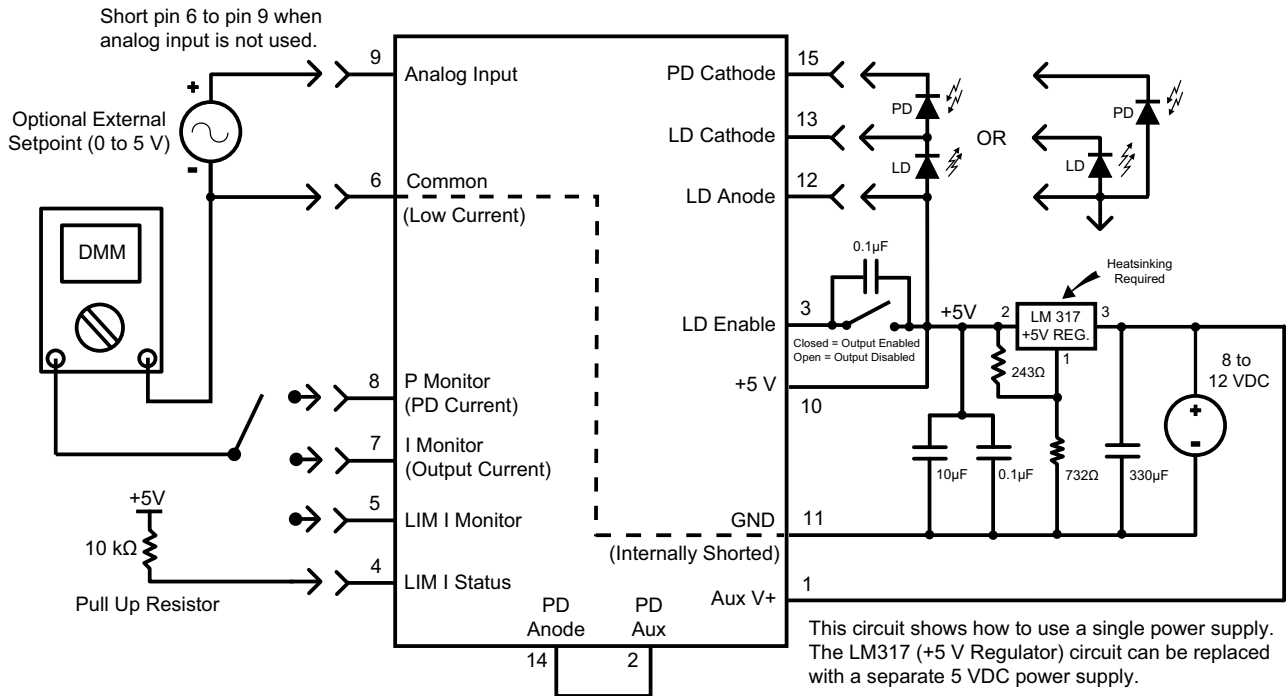

Figure 11. Type C Laser Diode
- 8 to 12 VDC power supply rated for 50 – 250 mA, plus 1.1-times the maximum laser diode drive current; power regulation circuitry is also required (see **Figure 11**)
Type C Laser Diode, Single Power Supply	Figure 11